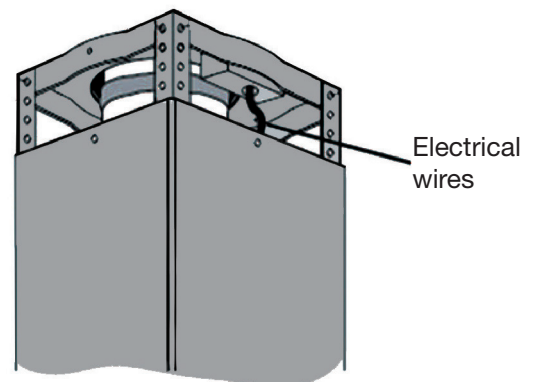

Figure 5
- Feed the electrical wires up through the chimneys (see Figure 5).